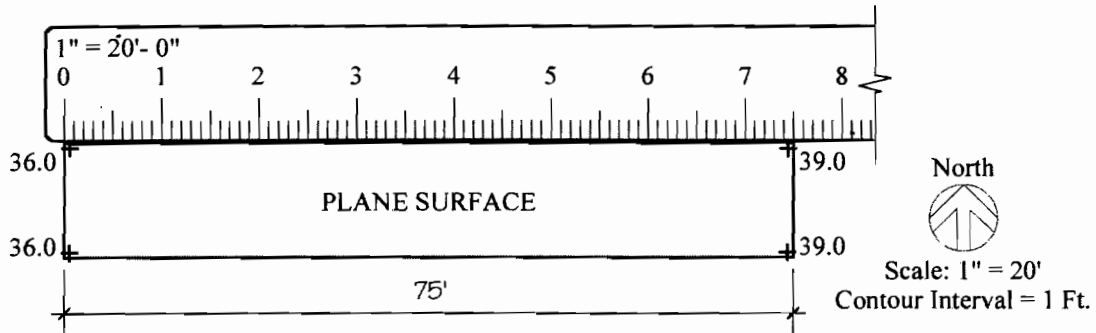

Figure 19. Reciprocal Function First Step — Finding Grade of Plane Surface
Example: Find the length between contours for Figure 19:
Step 1. In this example, the grade is not given, so it must be determined, as shown in Figure 19. Begin by finding the difference in elevation between the ends of the plane surface and then calculating its grade: